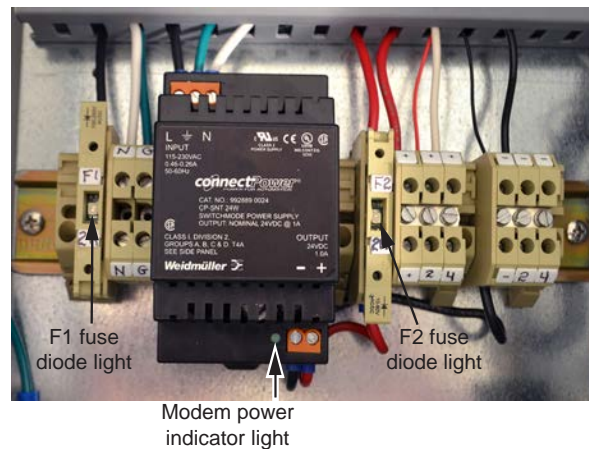

Figure 4.10—F1 and F2 fuse housing, closed
7. Close the F1 fuse housing (Figure 4.10) to bring power into the box. The green indicator light on the modem power supply will come on to indicate that the fuse is working correctly.
8. Close the F2 fuse (Figure 4.10) to supply power to the modem and the connected device.
9. Verify that the modem indicator lights are illuminated (Figure 4.11). If no lights are visible, check the diode light in the middle of the fuse housing (Figure 4.10). If it is lit, the fuse is blown and must be replaced.